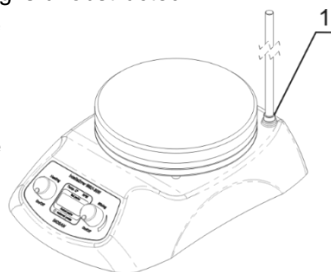

Figure 1. SR-1 stand installation
4.4 **SR-1 stand installation.** Remove the screw on the fixing socket at the stirrer back (fig. 1/1) and retain for future. Screw the end of the stand with the counter-nut into the fixing socket. Secure the stand with the counter-nut. Screw in the second part of the stand into the attached first part.